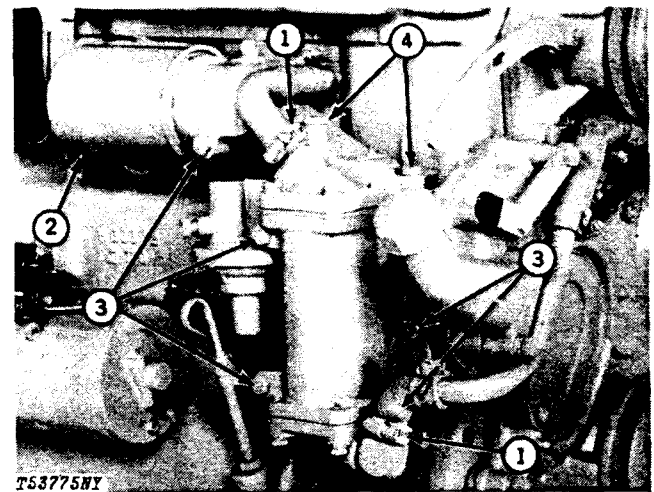

Fig. 6-Oil Cooler Assembly Removal
Disconnect coolant lines (1, Fig. 6) and remove oil filter (2).